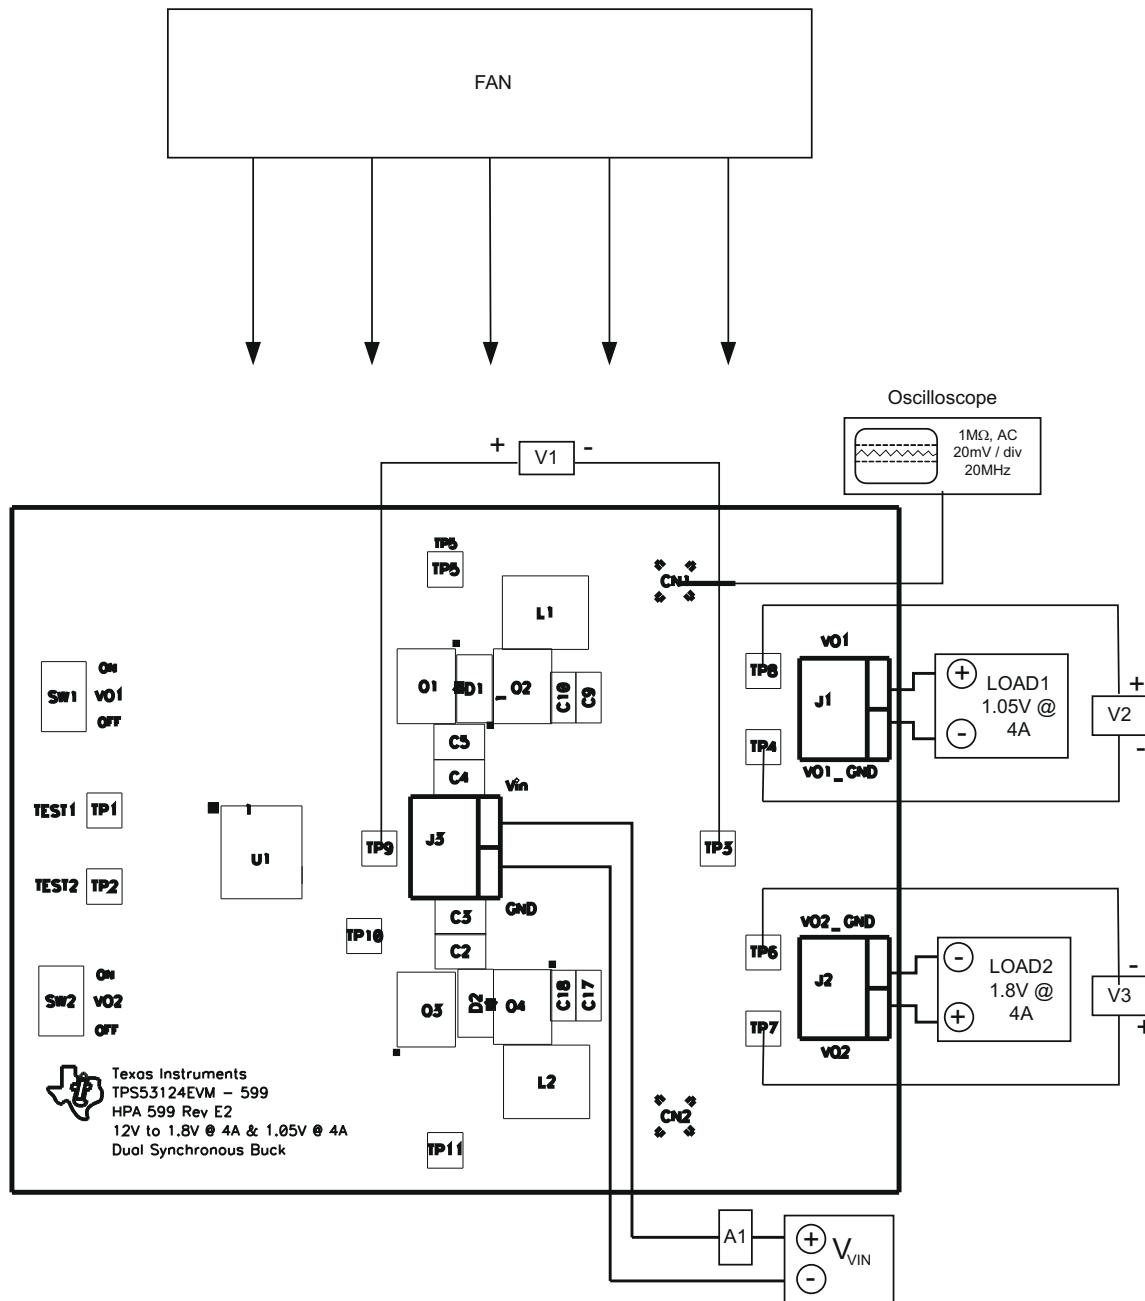

Figure 5-1. TPS53125EVM-599 Recommended Test Setup
Figure 5-1 shows the basic test setup that is recommended to evaluate the TPS53125EVM-599. Note that although the return for J3 and J1 and JP2 are the same system ground, the connections must remain separate as shown in Figure 5-1.
2. Prior to connecting the DC input source,  $V_{IN}$ , it is advisable to limit the source current from  $V_{IN}$  to  $3\text{ A}_{DC}$  maximum. Ensure that  $V_{IN}$  is initially set to 0 V and connected as shown in Figure 5-1.
5. Connect an oscilloscope probe to CN1 or CN2 shown in Figure 5-1.